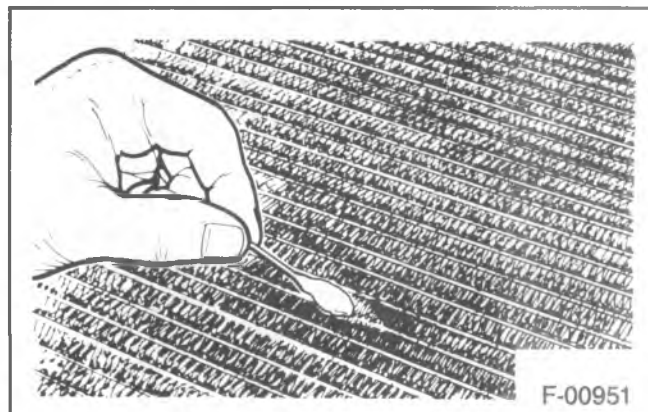

Figure 30—Scrubbing the Area with A Cotton Swab
6. Scrub the repair area with a cotton swab until a fresh swab stays clean. The clear, yellow-brown coating does not have to be removed (figure 30).